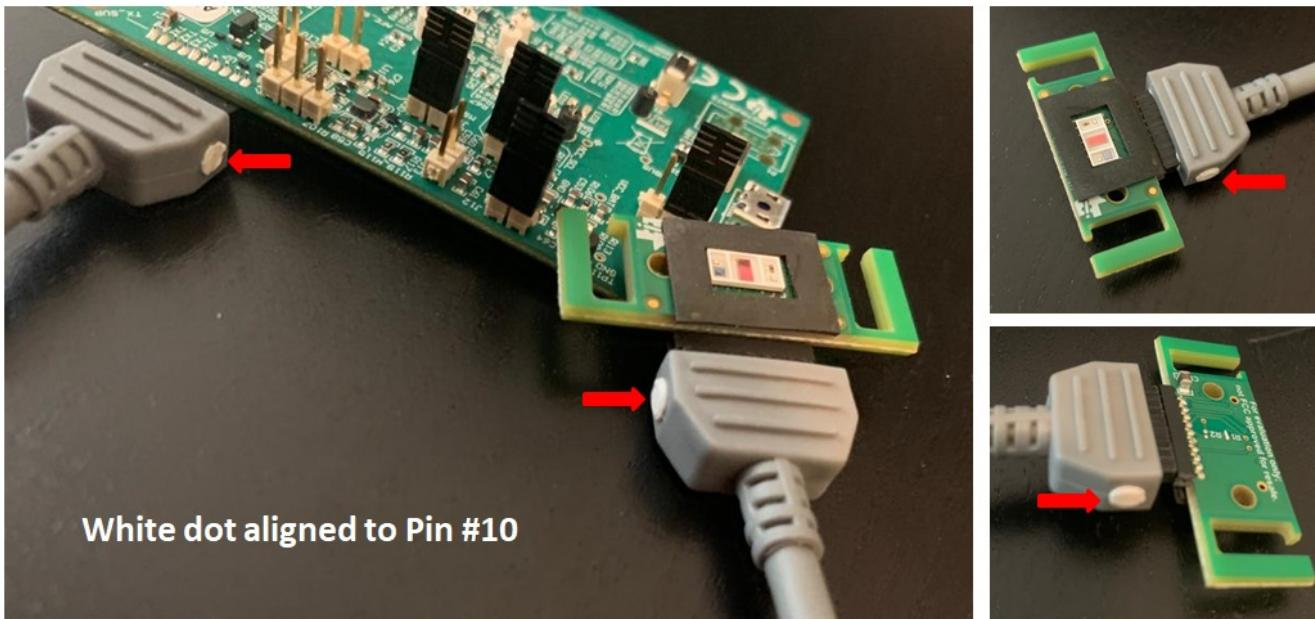

Figure 6. Connecting the PPG sensor board to the EVM
- Connect the PPG sensor module to the EVM's **J1** connector using extension cable as shown in Figure 6. Make sure that the sensor module is connected in the correct orientation – pin #10 should line up with the marking (the *White Dot*) on the cable.